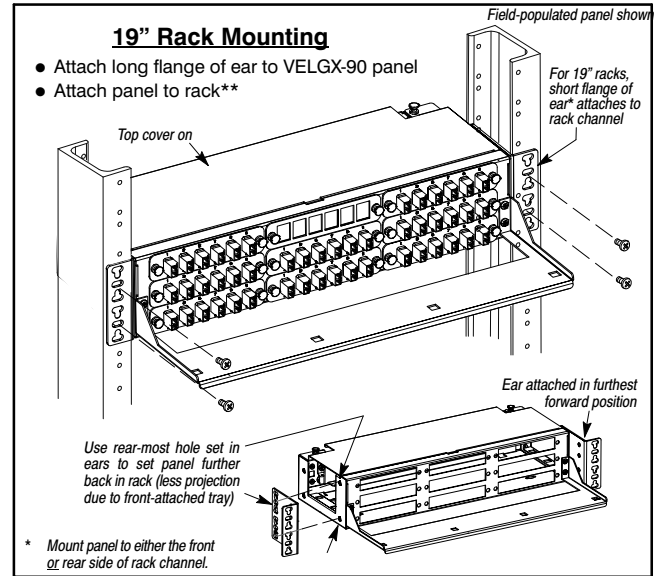
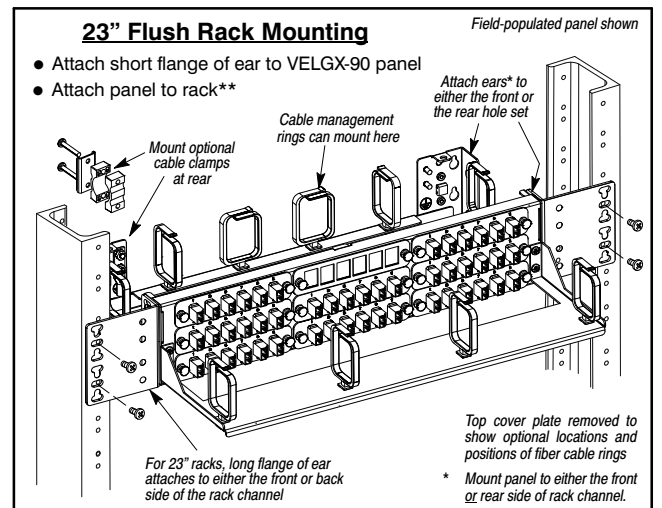

Figure 4. Flush 19" Rack Mounting
Figure 5. Flush 23" Rack Mounting (Top Cover Plate Removed)
The panel can be flush wall-mounted using the keyhole-shaped mounting holes on either the bottom or the rear surfaces, or it can be rack mounted using the included reversible mounting ears (included in the bag of parts) which can be attached to the side walls. Two sets of rack-mounting ear holes on the side walls allow flush or projected positions in both 19" and 23" standard EIA relay racks. Optionally, flip and reposition the ears in the rear mounting hole set for an alternate type of wall-mounting. See Part 2 and Figure 4 for more detailed mounting information.
See Figure 4 for a view of a VELGX-90 populated with 8 LGX panels. See Figure 5 for a view of the VELGX-90 equipped with cable management clips and cable clamps (top cover off).
The VELGX-90 panel can be mounted on a wall or in 19" or 23" relay racks with standard EIA 1.75" hole spacing. The following paragraphs and Figure 4 provide further details. Screws to attach the mounting ears to the panel are provided, as well as screws to mount the panel to a rack.
2.1 Mounting in a 19" Rack (Figure 4)
The front tray, when attached, projects forward from the rack. Minimize the projection by attaching ears in the rear-most set of holes in the ear's long flange (19" racks only, see bottom of Figure 4).